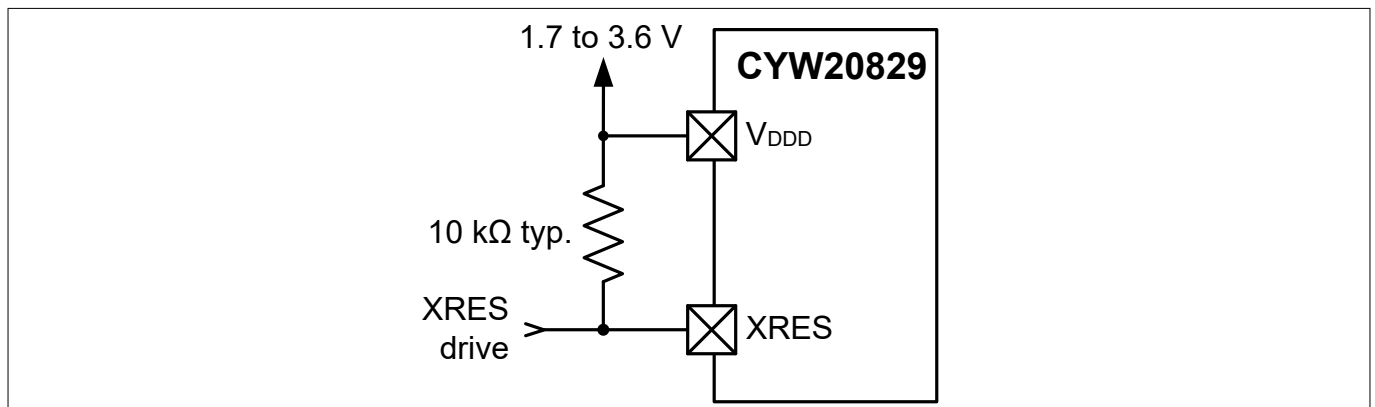

Figure 6 XRES connection diagram
- External reset dedicated pin (XRES) to reset the device using an external source. The XRES pin is active LOW. It can be connected either to a pull-up resistor to VDDD, or to an active drive circuit, as Figure 6 shows. If a pull-up resistor is used, select its value to minimize current draw when the pin is pulled LOW; 10 kΩ is typical